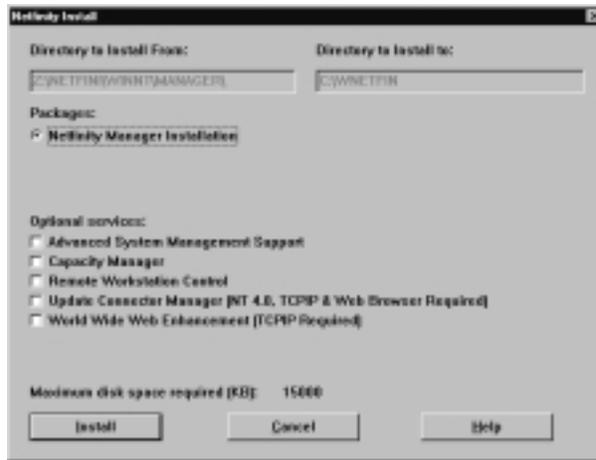

Figure 1. The Netfinity Manager Installation Program
8. Click **OK** to save these settings and open the Netfinity Manager Installation Program window (see Figure 1 on page 54).